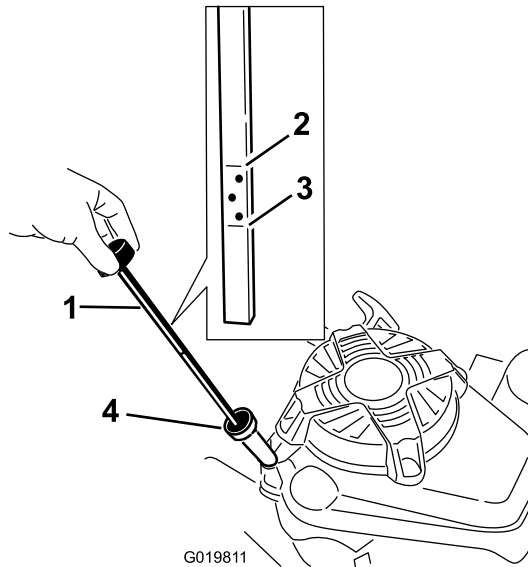

Figure 4
3. If the crankcase is empty, add about 3/4 of the crankcase capacity of oil into the oil-fill tube (Figure 4).
6. Read the oil level on the dipstick (Figure 4).